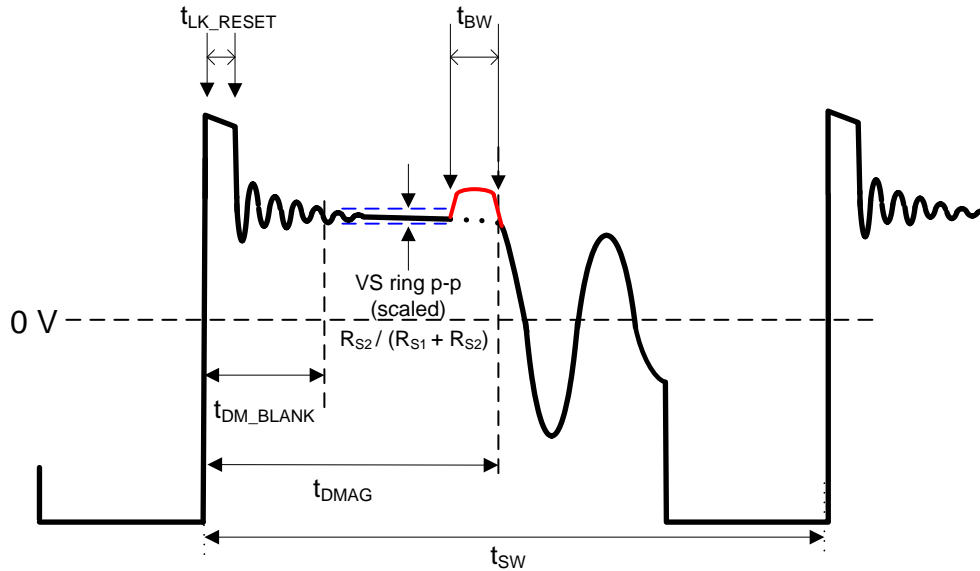

Figure 25. Auxiliary Waveform Details
Special design considerations need to be observed when using synchronous rectifiers (SR) with the UCC28704. Figure 14 depicts the de-mag time partition. When using UCC28704 with SR, a portion of the de-mag time needs to be reserved for t_{BW} , as shown in Figure 25, which is the body diode conduction time when SR MOSFET turns off before the de-mag time ends.